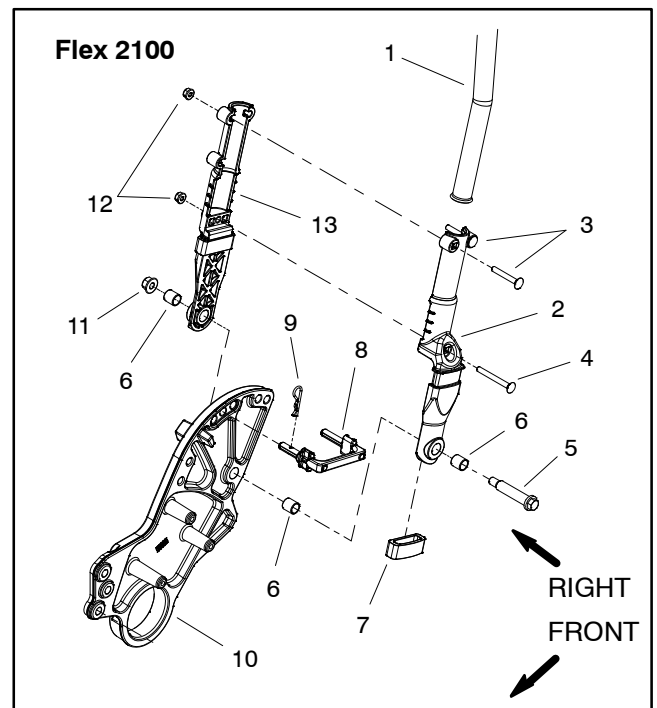
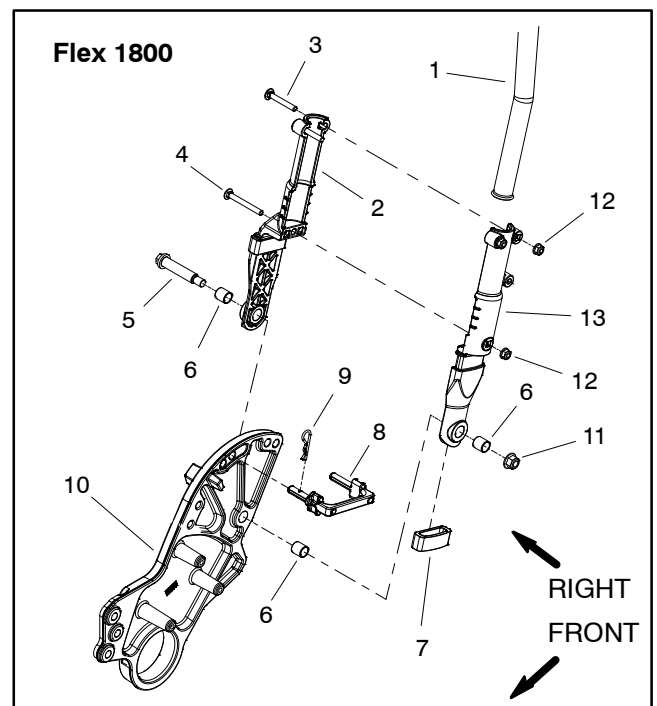

Figure 2
Figure 3
NOTE: The offset handle clamps on Flex 2100/2120 machines are mounted on the outside of the side plates (Fig. 2). On Flex 1800/1820 machines, the offset handle clamps are mounted on the inside of the side plates (Fig. 3).
8. Remove handle clamps from handle assembly (Fig. 2 or 3):
10. If rubber bumpers (item 7 in Fig. 2 or 3) need to be replaced, cut bumpers to remove from handle clamps. Apply soapy water to inside of new bumpers to ease installation onto clamps.
2. Fit inner handle clamps to the handle assembly and secure with removed fasteners (Fig. 2 or 3). Adjust handle height before fully tightening the fasteners.